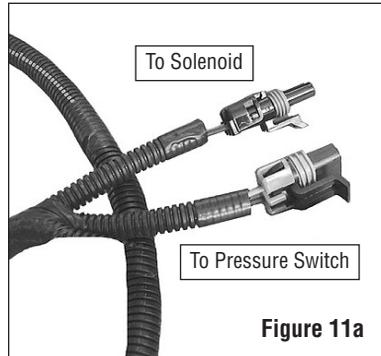

Figure 11a
- 27b. The solenoid connector is a Weather-Pack type. The pressure switch connector is a Metri-Pack type. *Figure 11a*